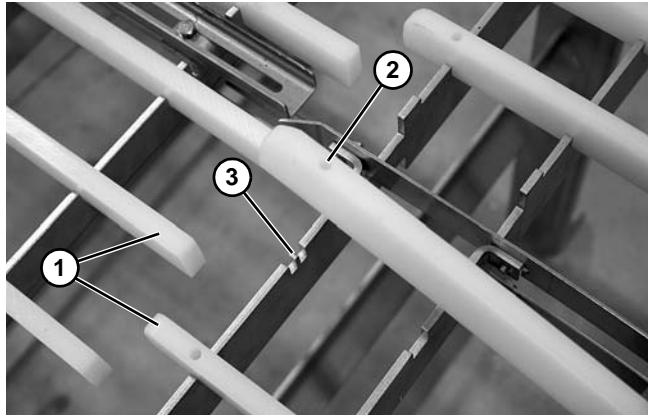

Figure 41
2. Remove worn wear strips (**Figure 41, item 1**) from the frame notches.
3. Attach new wear strips by installing the locating hole (**Figure 41, item 2**) over the tab (**Figure 41, item 3**) on the crossmember.